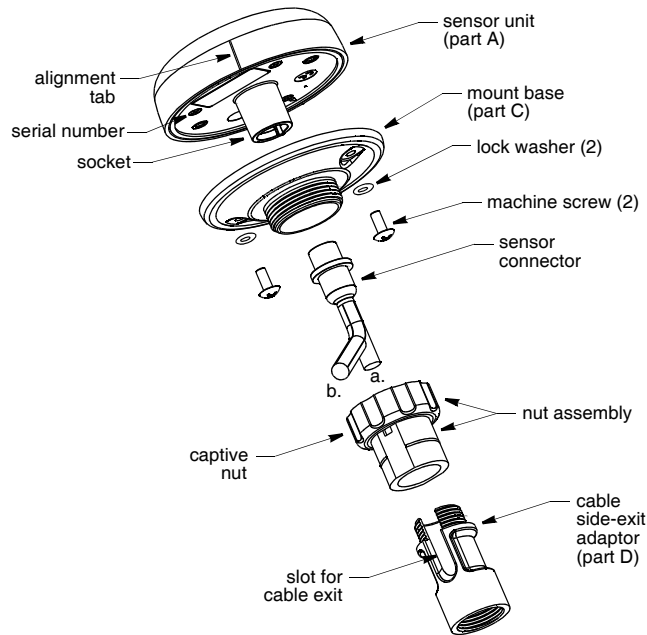

Figure 2. Pole/Rail mount
1. Remove the label from the sensor unit's socket (see Figure 2). Fasten the mount base (part C) to the sensor unit (part A) with the two machine screws and lock washers supplied. The torque for the screws is 1.35Nm.